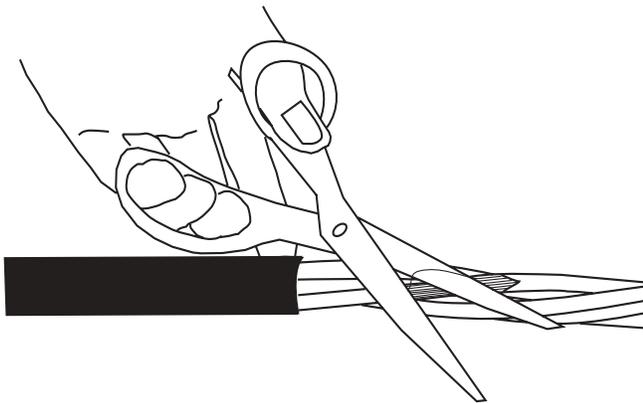

Figure 11
- Step 2** Use scissors to cut ONLY the fiber being accessed (Figure 11).